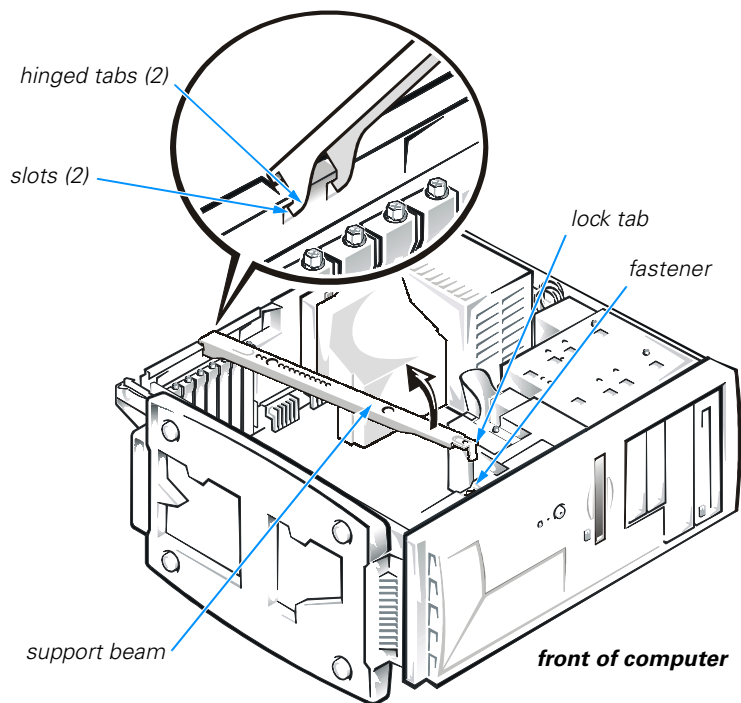

Figure 2-2. Removing the Support Beam
5. Pull up the front end of the support beam (see Figure 2-2) until it snaps free from its fastener. Lift the front of the beam until the hinged tabs on the back end of the beam clear their slots.
3. Slip the support beam's hinged tabs into their slots (see Figure 2-2) and lower the beam. Then place the lock tab into its fastener, and press down on the front end of the beam until it snaps into position.